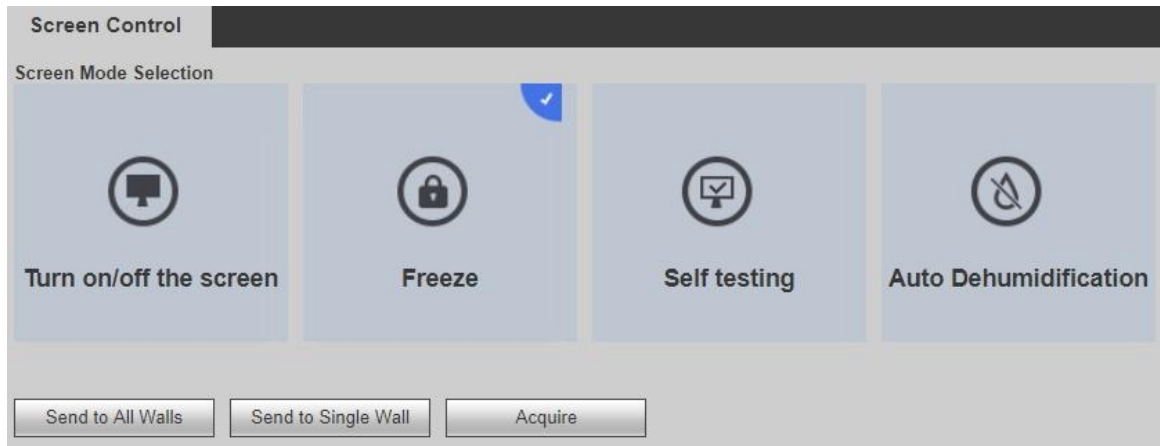

Figure 3-91
Step 1 Select "Freeze", as shown in Figure 3-91.